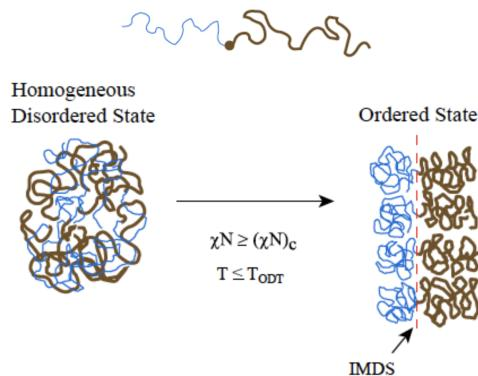

Figure 2.18: Ordering of a diblock copolymer.
- The subscript *c* in Figure 2.18 means "critical."